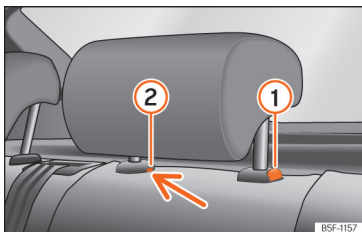

Fig. 100 Rear head restraint: removal.
- Press button >>> **Fig. 100 ①**, while simultaneously pressing on the safety hole **②** with a flat screwdriver a maximum of 5 mm wide, and remove the headrest.